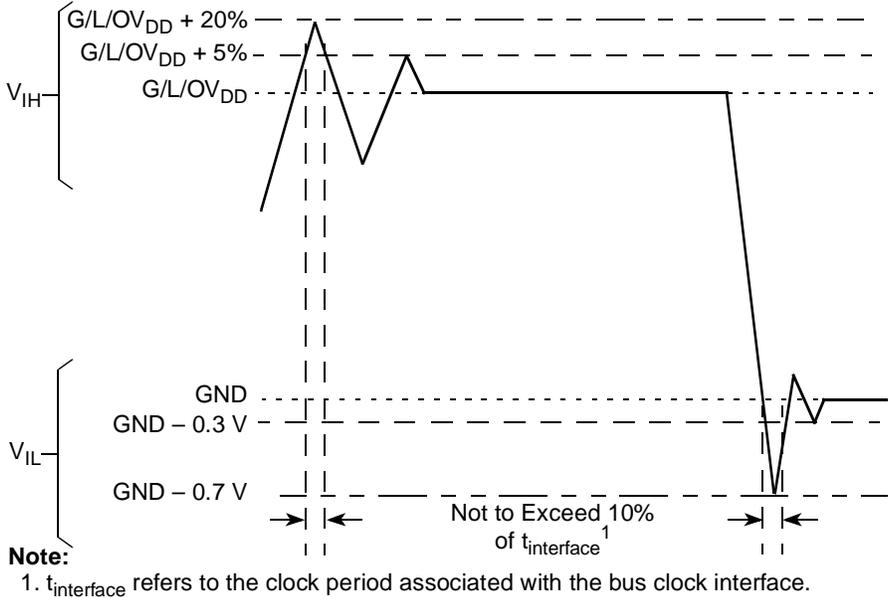

Figure 2. Overshoot/Undershoot Voltage for $G_{V_{DD}}/O_{V_{DD}}/L_{V_{DD}}$
- ⁵ (M,L,O)V_{IN} and MV_{REF} may overshoot/undershoot to a voltage and for a maximum duration as shown in Figure 2.
Figure 2 shows the undershoot and overshoot voltages at the interfaces of the MPC8347EA.